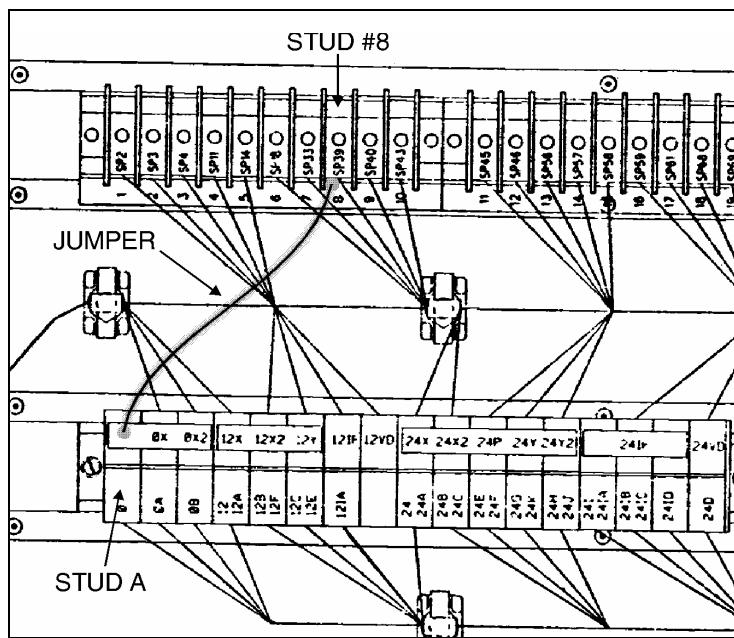

FIGURE 3
5. Install a jumper between stud #8 and stud A (Fig. 3).